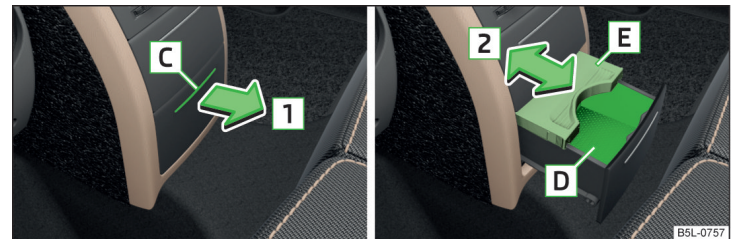

Fig. 77 Cup holders in the rear centre console: Open / Adjust size
- To **Open** Press the holder in the area **C** » Fig. 77. The holder slides out.
- Before folding the rear centre seat, the holder [D] » Fig. 77 must be closed - otherwise there is risk of damage.